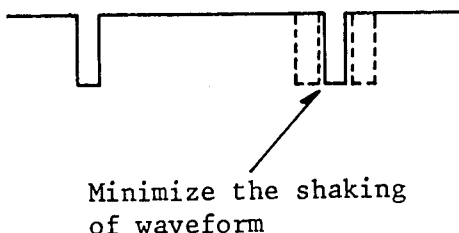

Fig. 2-14
- ③ Set the power supply switch to the ON position.
- ④ Play back the band 8 or 13 (0.5 mm black spot) of the test disc (SZZP1014F).
- ⑤ Adjust VR301 so that the shaking of waveform is eliminated or minimized as shown in Fig. 2-14.
- ⑥ Turn off the power supply switch.